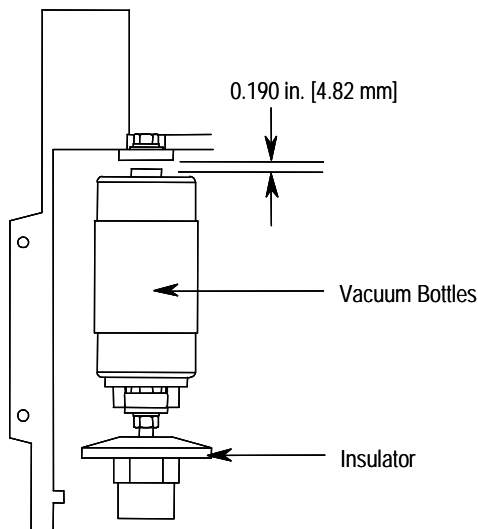

Figure 4.6 - Establishing Contact Gap
5. Install a new bottle by tilting an insulator forward and threading the bottle onto the stud (reverse of Step 3). Take care to ensure the threads are aligned as cross-threading can occur. Thread the bottle down, leaving a gap of approximately  $4.82 \text{ mm} \pm 0.25 \text{ mm}$  ( $0.190 \text{ in.} \pm 0.01 \text{ in.}$ ) between the top of the bottle and the bottom surface of the line terminal, as shown in Figure 4.6. Use inside calipers and a micrometer, or another accurate measuring tool, to set the gap. This gap is precisely calibrated later in this section. The wear indicator line on the bottom of the bottle's movable shaft must be facing forward (i.e. visible from the front of the contactor). Repeat this step for the remaining two bottles.